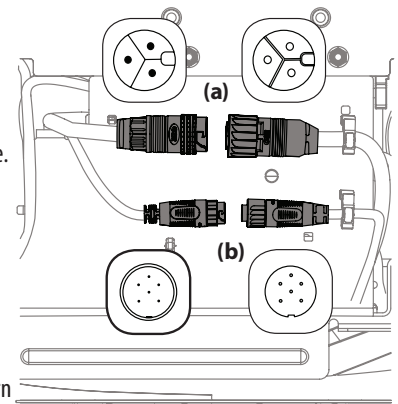

Figure 23
3. Disconnect the deck motor(s) from the adapters on the underside of the tractor. Rotate the connectors 1/4-turn counter-clockwise and pull down. See Figure 23.